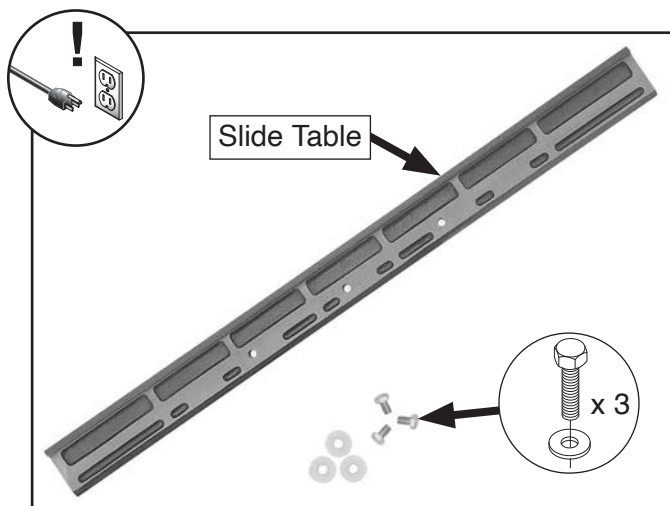

Figure 16. Slide table dismantled.
2. Remove adjustable guard, then place slide table on a flat surface and remove (3) hex bolts and flat washers (see **Figure 16**).